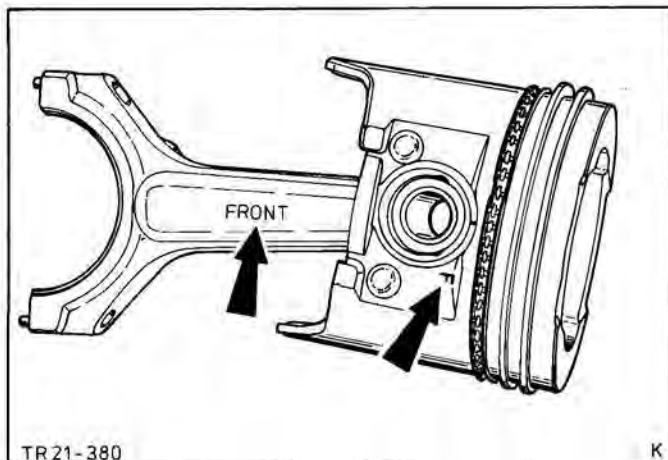

Fig.122. Relative positions of front marks.
4. When assembling, the front mark "F" on the piston must be positioned in relation to the "FRONT" mark on the connecting rod as shown, Fig.122.